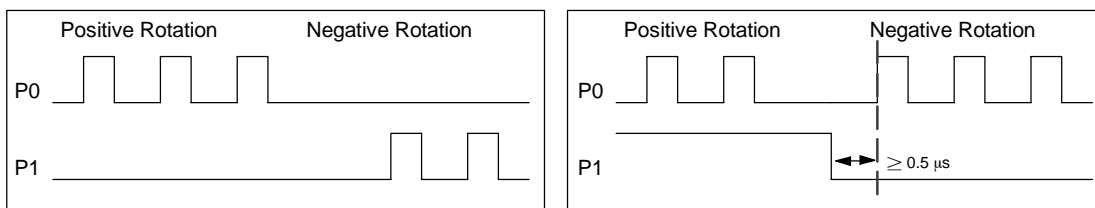

Figure 9-11 Rotation Options for Positive Polarity
- Use the Pulse and Directional Outputs tab to select the polarity of the outputs and to select the direction control method. See Figures 9-11 and 9-12 to see the effects of polarity and direction control method selections.